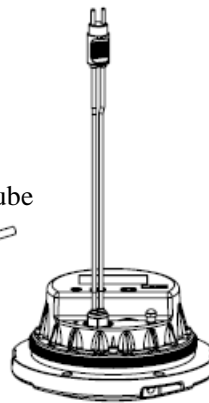

Figure 5-21
- After detection, release the air pressure in the lighting fixture with the air valve of the valve core, re-screw the valve cap and put it into use (Figure 5-21). In case of leakage, check the causes according to the previous prompts and repeat the whole lighting fixture disassembly and assembly process or return it to the factory for maintenance.